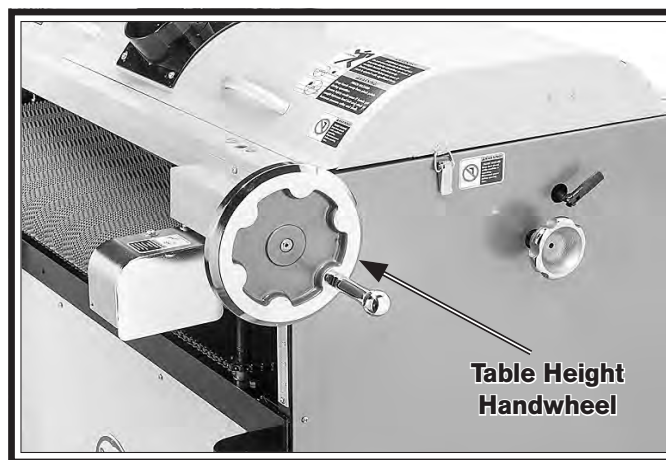

Figure 15. Location of table height handwheel.
1. Using table height handwheel (see Figure 15), adjust conveyor table until there is a small gap between workpiece and sanding drum.